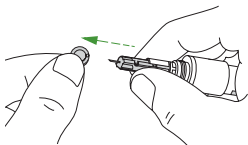

Figure 24
STEP 3: Remove the protective cap from the lancet by twisting it. Save the protective cap for later use. See *Figure 24*.